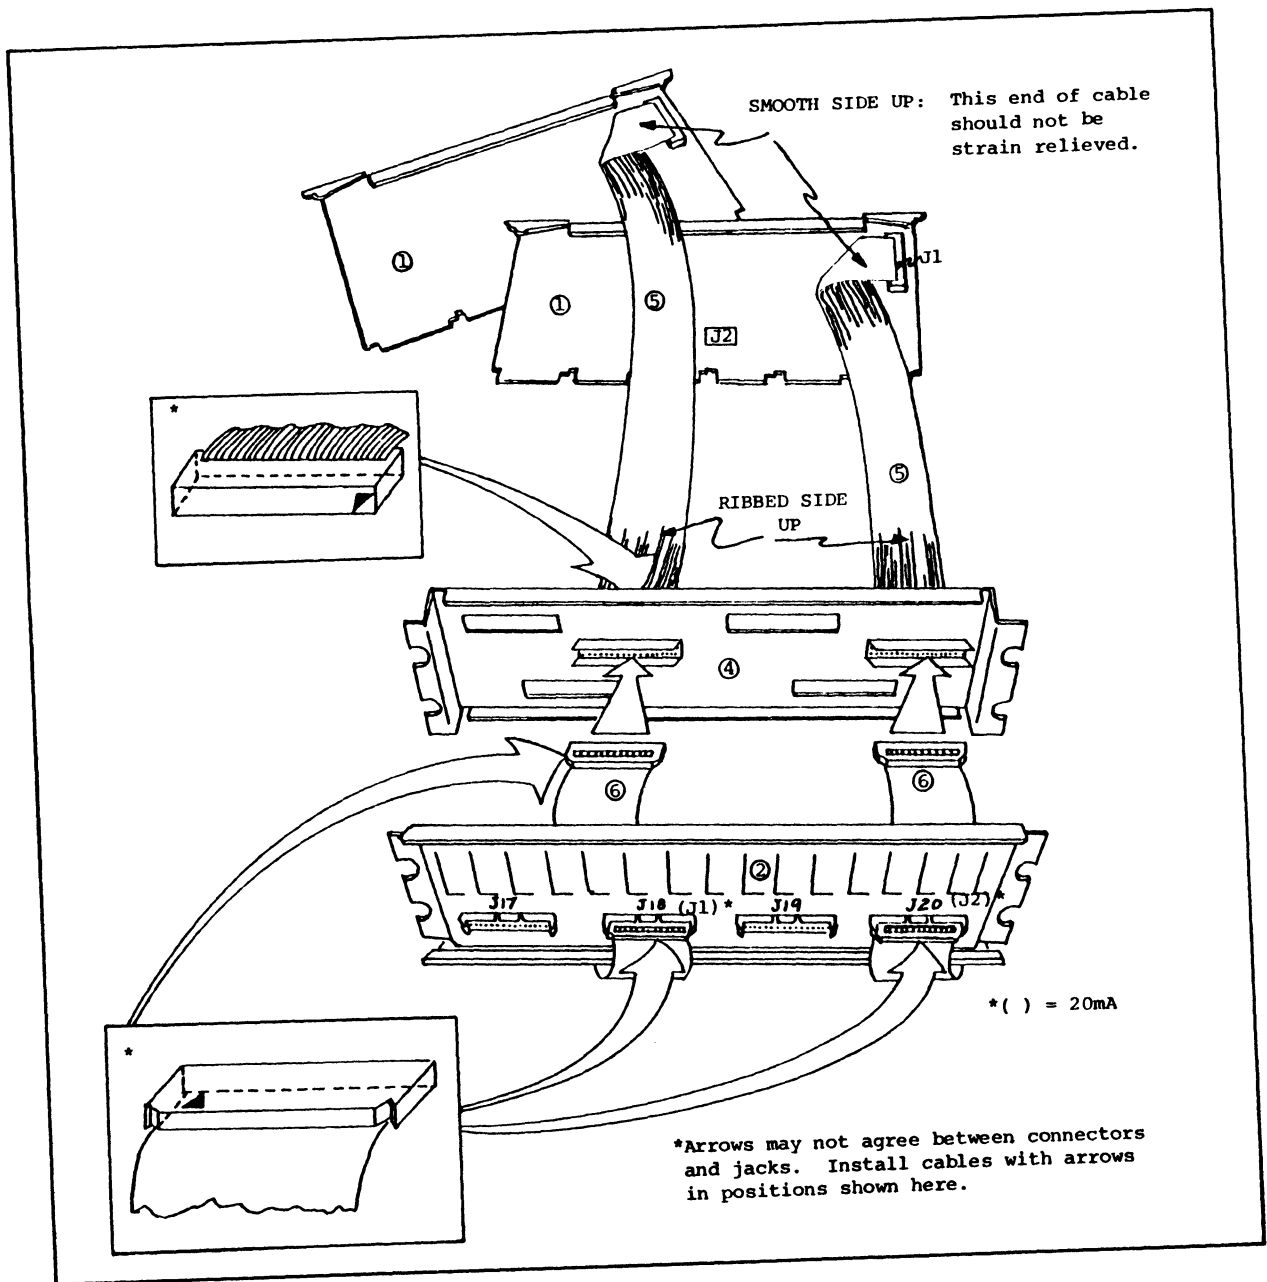

FIGURE 2-2: PM-DZ11E OR PM-DZ11F INSTALLATION
Refer to Figure 2-2.
- Insert the remaining end of the mirror cables into J18 (J2) and J20 (J1) as shown in Figure 2-2.
Pin alignment arrows may not match on cable and board assignments. Note Figure 2-2.